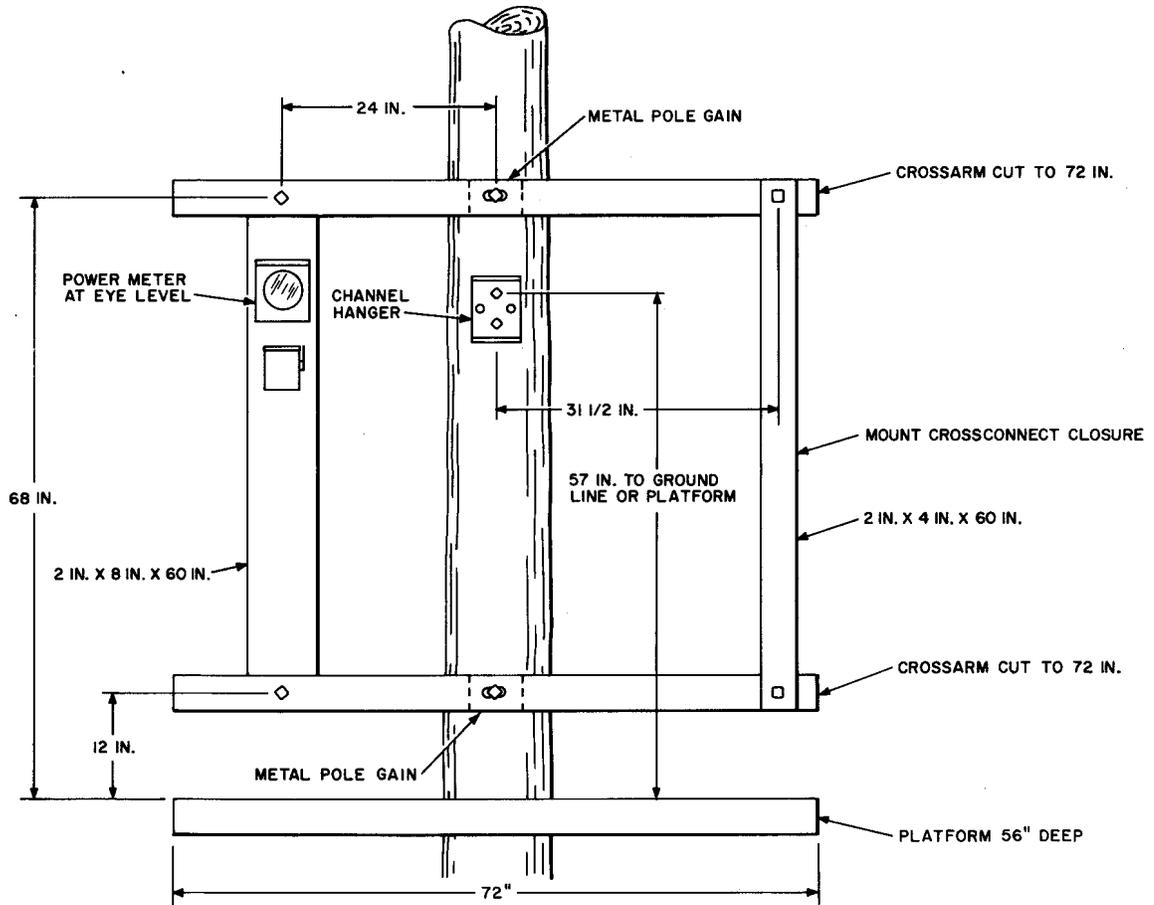
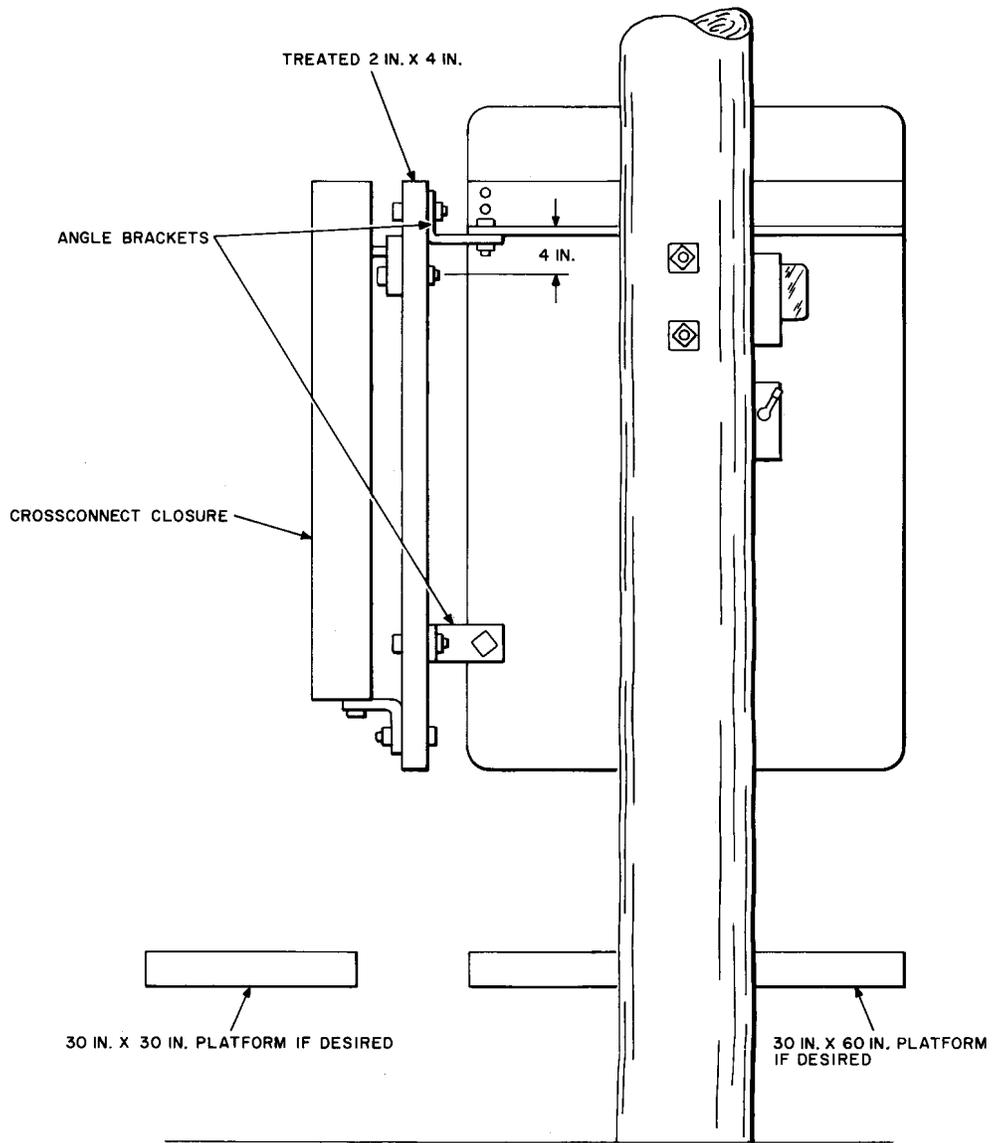

Fig. 6—Single Cabinet Installation When Climbing Space is a Factor
Fig. 7—Alternate Method of Single Cabinet Installation When Climbing Space is a Factor
(c) If climbing space must be maintained where a class 5 or larger pole is used, mount the RT cabinet, power meter, and interconnection closure in an arrangement as shown in Fig. 6
or 7. The upper crossarm in Fig. 6 does not support the weight of the cabinet. The angle brackets shown in Fig. 7 are supplied with the RT cabinet.
4.03 A 72- by 56-inch platform, if specified, as used with the installation shown in Fig. 6 should be built 3 inches out from the pole. In the case of the installation shown in Fig. 7, the 60- by 30-inch platform (if specified) should also be built 3 inches out from the pole. The 30- by 30-inch platform is constructed so that it is partially under the interconnection closure.